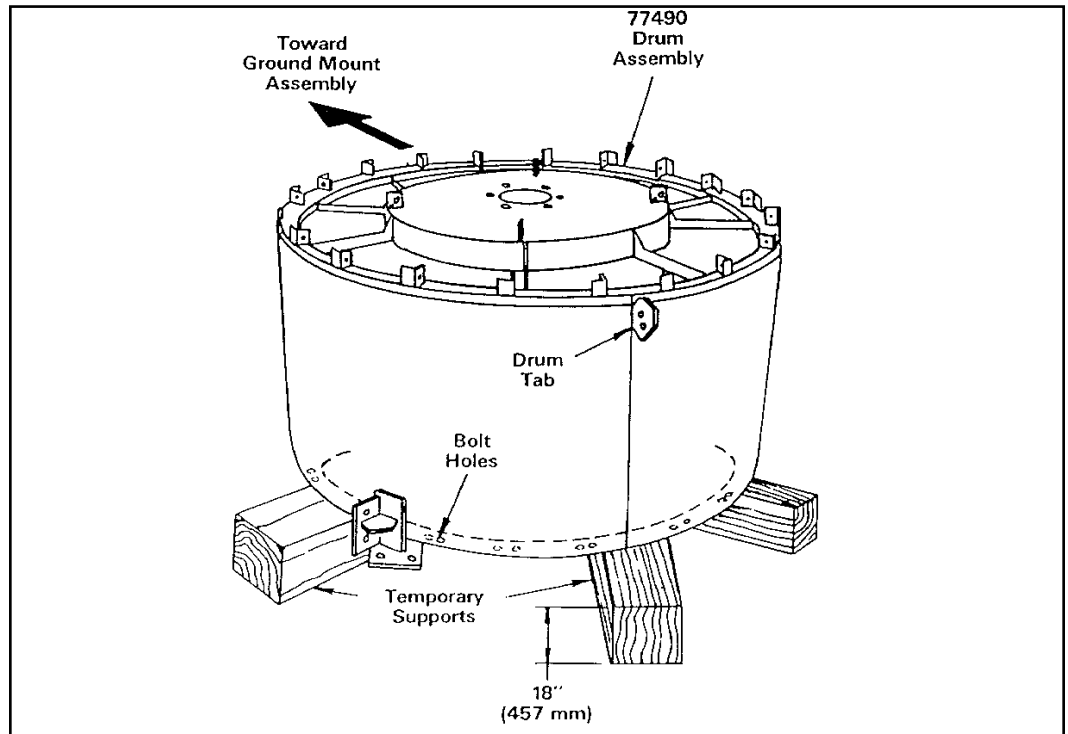
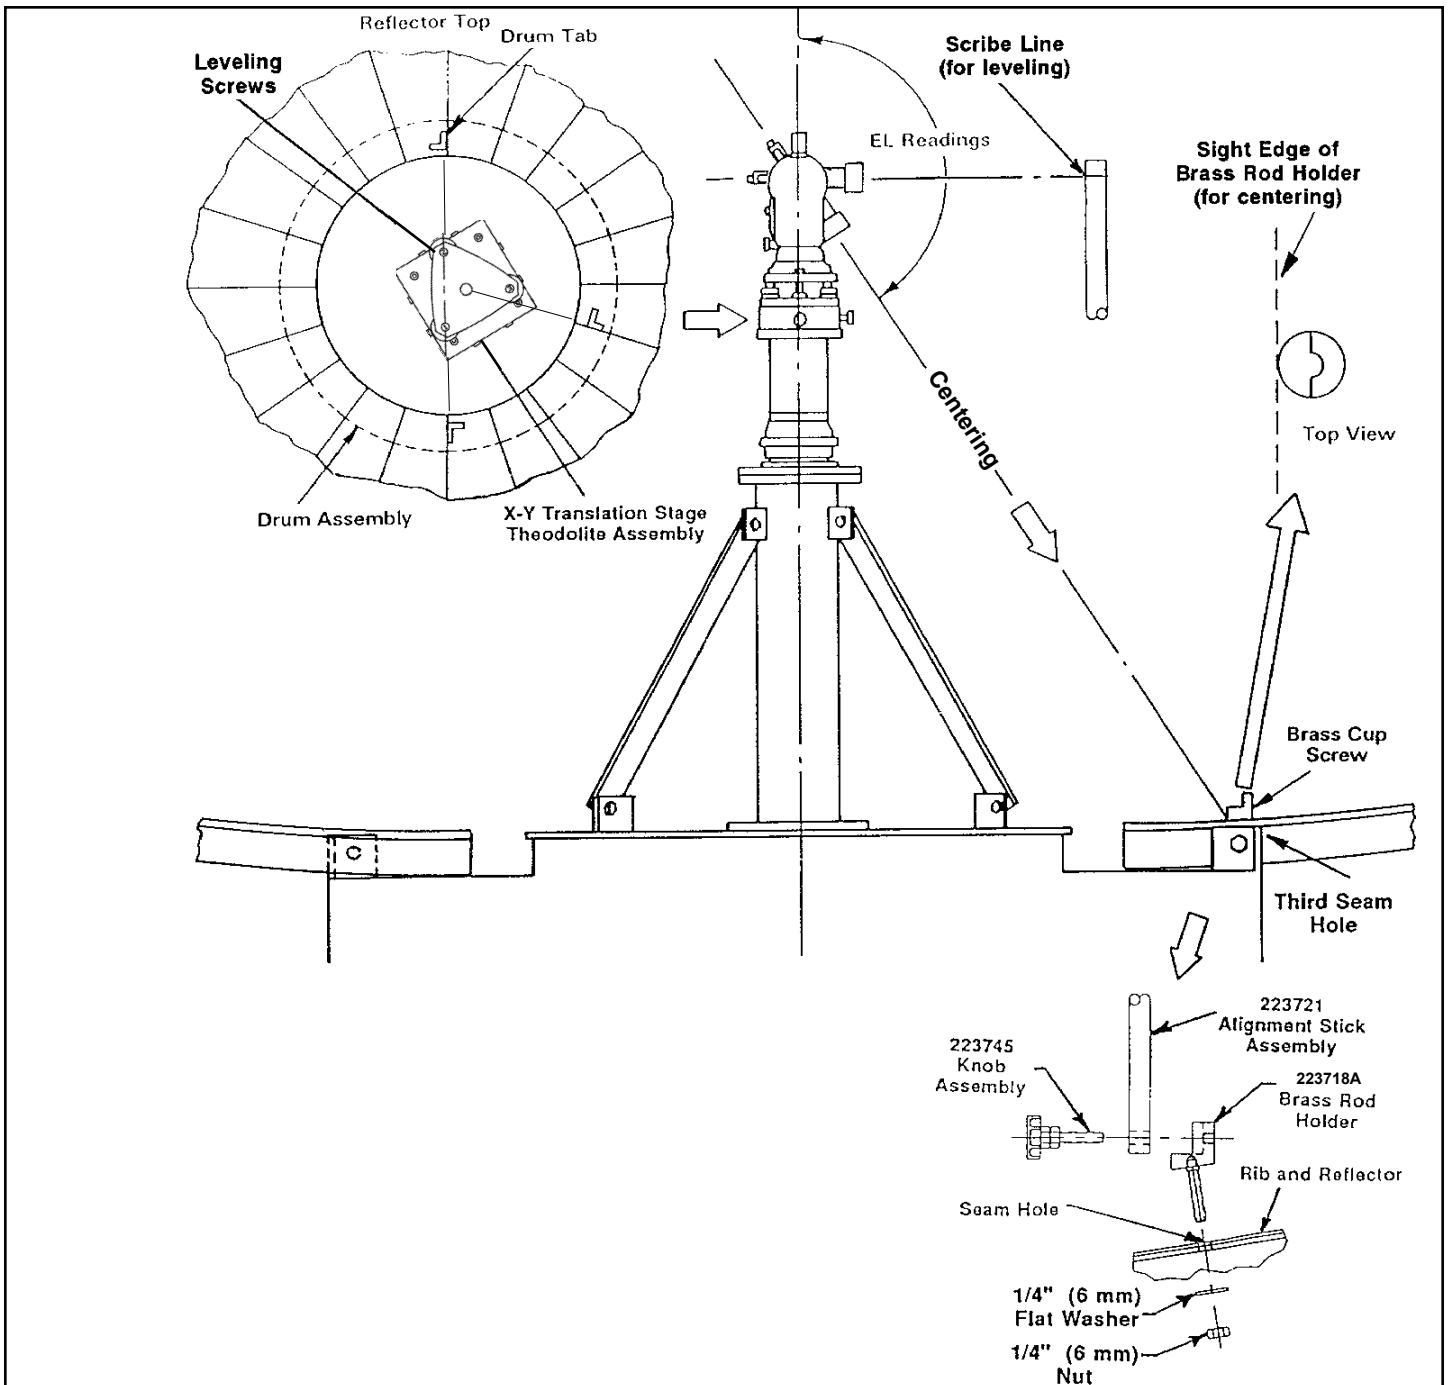

Figure 24
Figure 38
Refer to Figure 24. Position six temporary supports in center of assembly area 60" apart in a 7 ft (2 m) diameter circle. Place drum assembly on temporary supports as shown with drum tab positioned opposite ground mount assembly.
Refer to Figure 38. Assemble 3 brass rod holders as shown. The brass rod holders used for calibration of the theodolite to the reflector and subsequent alignment of the reflector, must be installed in the third seam holes at the panel seams shown.
Step 4 Refer to Figures 38 and 39. With the height of the theodolite and its support kit set as indicated in Figure 24, the theodolite should sight near the scribe line of the alignment stick when theodolite elevation is set to $90^{\circ} 00' 00''$. If not, set the theodolite elevation angle to 90° and move the theodolite up or down until it sights on the scribe line using the rotary precision lift. Be careful not to turn entire torque tube while turning precision lift.
- Step 1** Refer to Figures 38 and 39. Centering of the theodolite is performed using the X-Y translation stage. This device has 2 sets of micrometer adjustments and 2 sets of long locking adjustment screws which are opposed at 90°.
- Step 3** Refer to Figure 38. Centering is performed by focusing the theodolite on the intersection of the brass rod holder and the reflector skin.